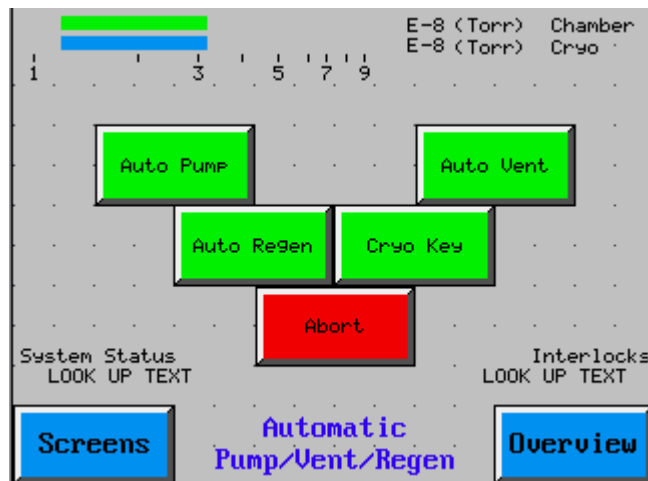

Figure 4: Auto pump/vent/regen screen.
- c) Touch the Auto Vent button as shown in Figure 4. The automatic venting process will start.
- b) Touch Auto Pump button (Figure 4). As the pumping starts, the door will be held with vacuum and the handle will swing down. Always use automatic pump down as described, not manual.